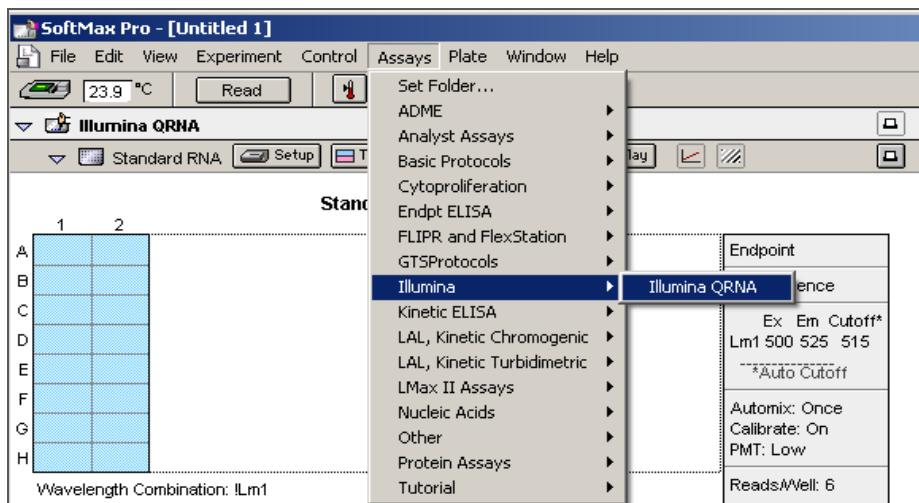

Figure 68 Load the Illumina QRNA Protocol in SoftMax Pro
4. Select **Assays | Illumina | Illumina QRNA** (Figure 68).